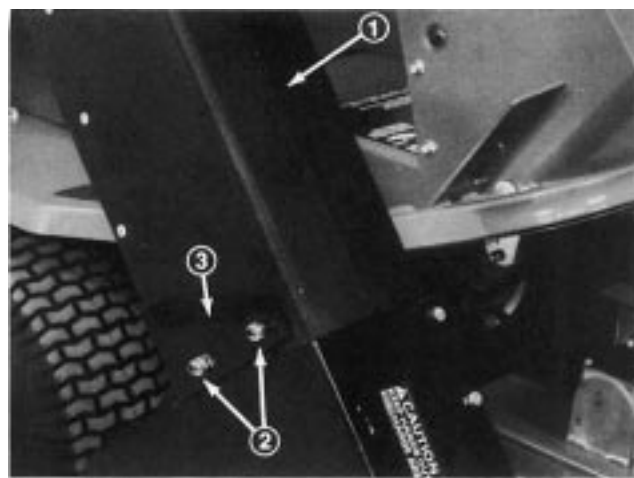

Figure 19
2. Slide chute over blower opening and into mounting studs (Fig. 19).
3. Lower hopper hood and align chute with hood snout. Secure chute in position with lock nuts and brackets. Wide end of brackets to be positioned toward rear (Fig. 19).